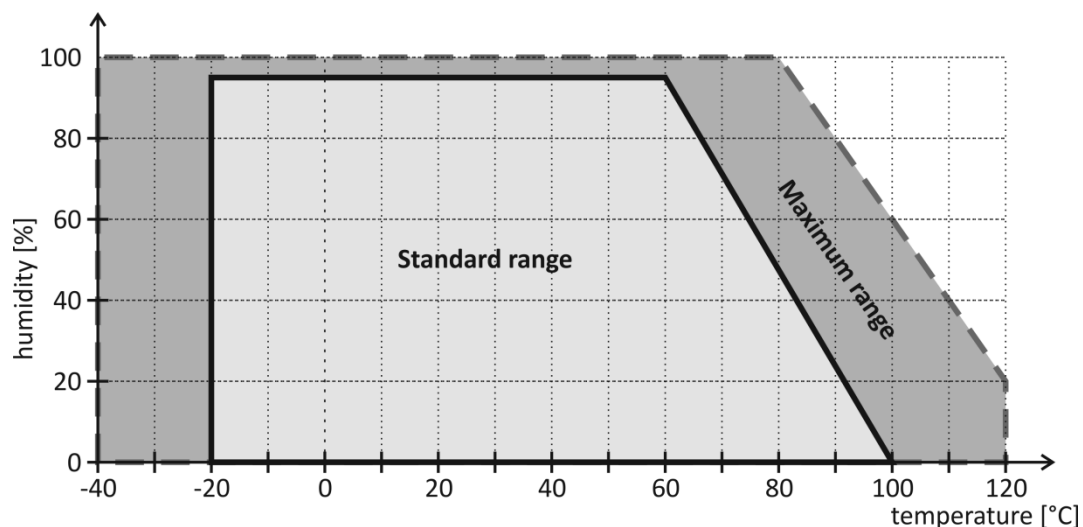

Fig. 13 – working and maximum temperature range
- Sensor is stable in standard range of values (see Fig. 13). Long-term exposure to conditions outside these values (humidity above 80% in particular) can temporarily shift the measured-out values (by +3% for 60 hours). When the sensor is back to standard ranges, it returns to its pre-calibrated state slowly.⁵